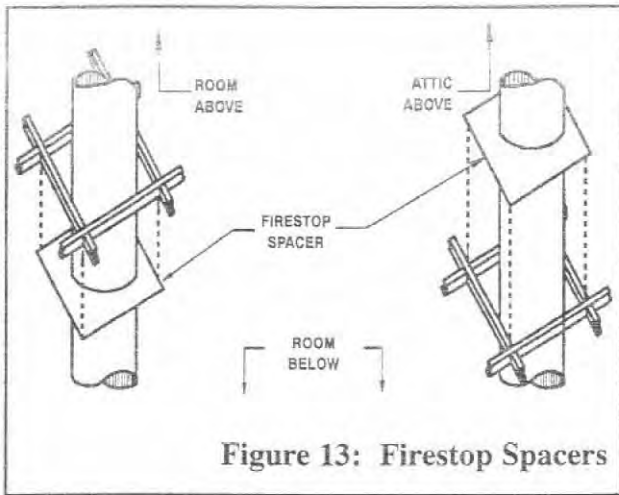

Figure 13: Firestop Spacers
Firestop Spacers are required at each point where the chimney penetrates a floor or ceiling joist space. Their purpose is twofold: they establish and maintain the required clearance between the chimney and combustible materials, and they provide separation from one floor to another floor or attic space. They are not intended to halt a fire that's already established. It is not necessary to seal any gaps between the firestop spacer and the vent pipes or joists. If the pipe passes through a framed opening between floors, install a firestop spacer to the bottom of the joists. When the pipe passes into the attic space, install the firestop spacer on top of the joists and secure with sheet metal screws or nails. Refer to Figure 13.
**Note:** Each time the chimney passes through a floor/ceiling, a firestop space must be used. If the space above is a room, the firestop spacer must be placed at the bottom edge of the joist area. If the space above is an attic, the firestop spacer must be placed at the top edge of the joist area. Refer to Figure 13.